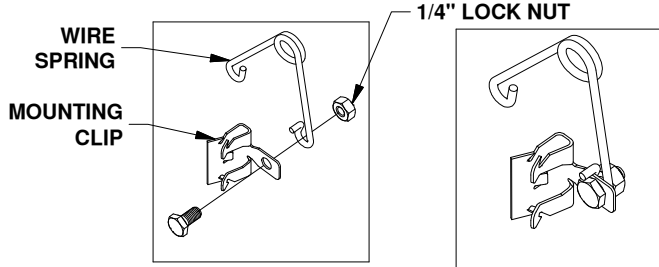

Figure B1:
1. **Assemble kit.** Locate the 1/4" cap screw and nut, along with the wire torsion spring and mounting clip. Pass the 1/4" cap screw through the mounting clip and the wire spring, as shown in Figure B1. Thread the 1/4" lock nut onto the 1/4" cap screw. Tighten the lock nut just enough that the spring will stay in place but will still be able to rotate around the bolt if needed, see Figure B2.